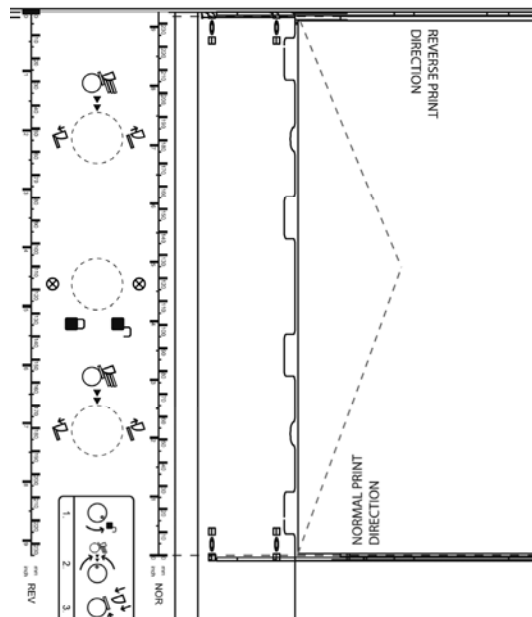

Figure 13: Positioning the material
- Put in one medium in the feeder according to your desired print position. Use the ruler to determine the position. Please note that the print directions NOR (Normal) and REV (Reverse) have different zero positions (see Figure 13). For further information about the print direction please see chapter **5.6 „How to set the print direction (orientation)“**, on page 40.